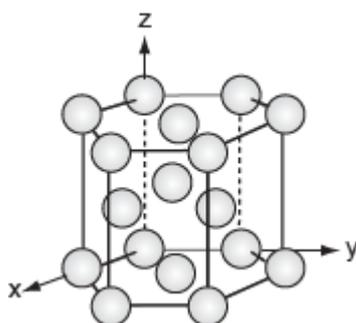

Figure C22. The HCP structure.
**E16.** The HCP structure contains tetrahedral interstitial holes as well as octahedral ones. Identify a tetrahedral hole on the BCC lattice of Figure C22.